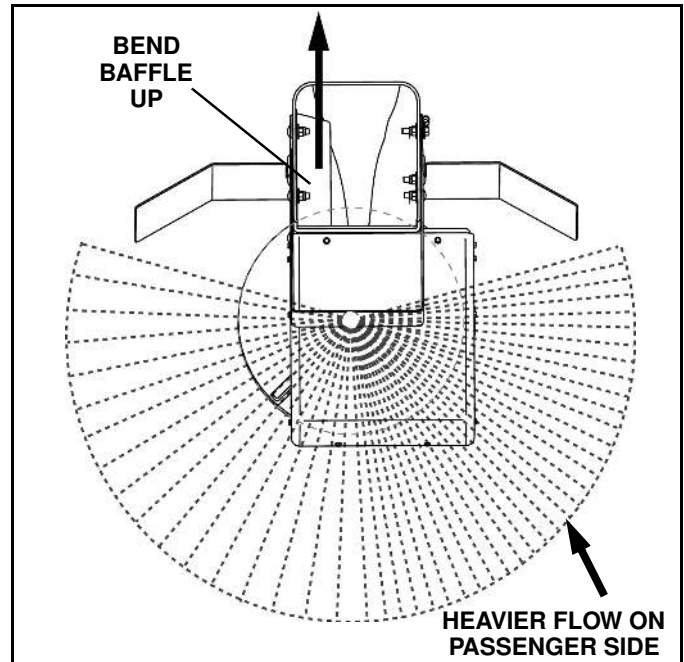

Figure 2-2
• To adjust the flow of the material to the passenger side (PS) of the vehicle, manually bend the internal baffle on the chute assembly in the "UP" position (See Figure 2-2).